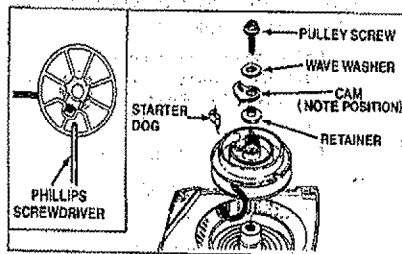

Figure 39
8. Feed the rope through the round starter hole in the fan housing. Figure 39.
9. Guide rope inside pulley, then through topside pulley hole by pushing the rope from the underside hole with a small round object, such as a Phillips screwdriver. See inset. Figure 39.
NOTE: If you remove the pulley screw from the pulley make sure the starter dog, retainer, cam and wave washer are positioned and installed properly as shown in Figure 39.
14. Make sure the cam is installed on the starter dog in the direction shown in Figure 39. Also make sure the wave washer is seated around the top outer edge of the retainer, and not caught between the top of the retainer and the pulley screw.